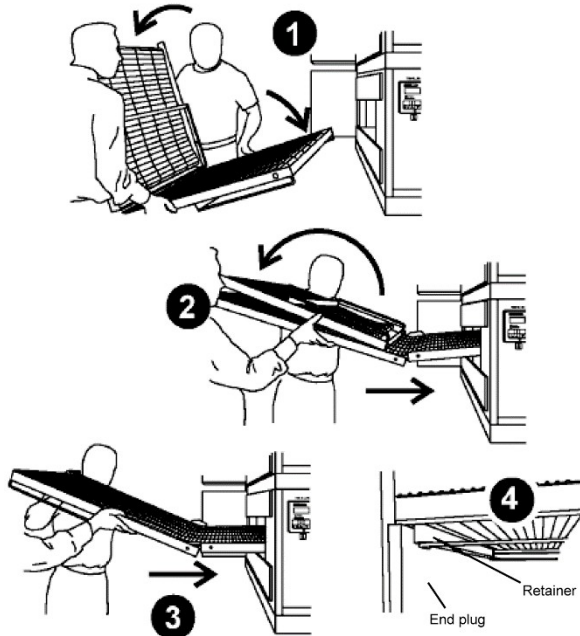

Figure 24. Conveyor Installation
1. Unfold the conveyor as shown in Figure 24. Then begin to slide the conveyor into the end of the oven. The conveyor can only be installed from the side of the oven where the drive motors are located.